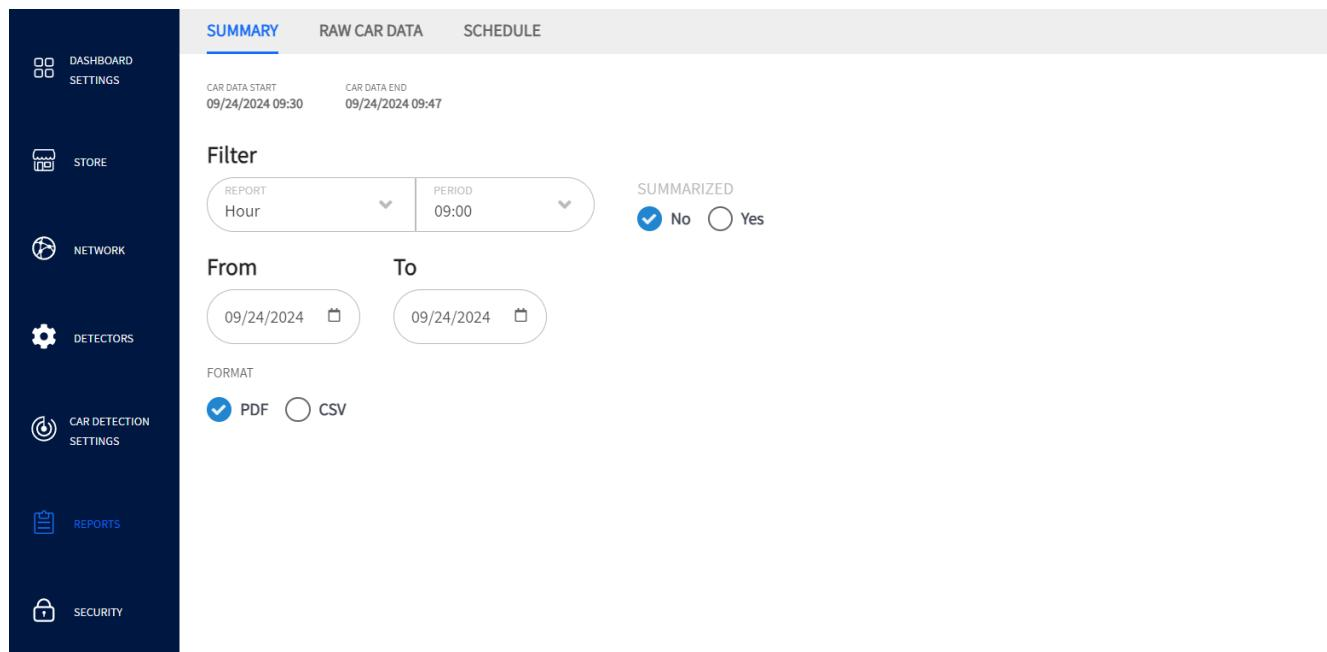

Fig. 8.1
**Example:** Fig. 8.1 shows a one-month report summary for the hour at 09:00 from September 24, 2024, to September 24, 2024.